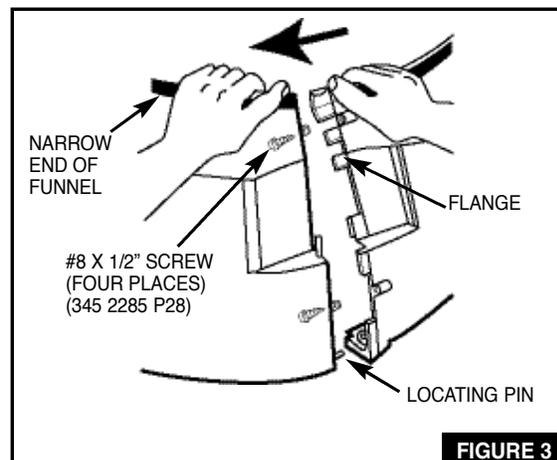

FIGURE 3
opening facing up. Align both halves and press locating pin of funnel half into locating hole on adjacent funnel half. See figure 3. Using two (2) #8 x 1/2" screws, fasten both halves together.
NOTE: Flange on funnel half overlaps outer surface of adjacent funnel half as shown in figure 3.